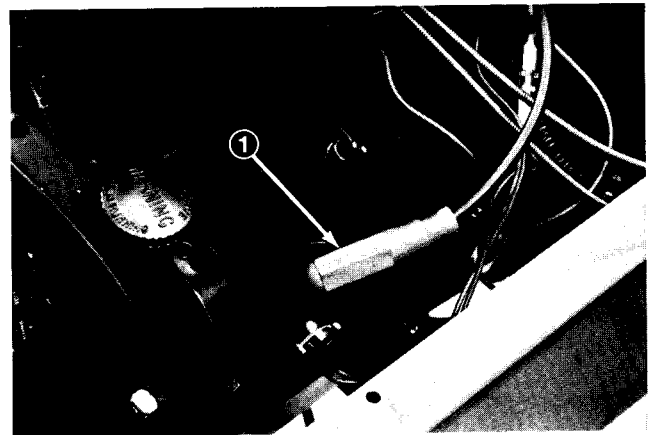

Figure 14
2. Pull the high tension wires (Fig. 14) off the spark plugs. Remove the spark plugs from the cylinder head.